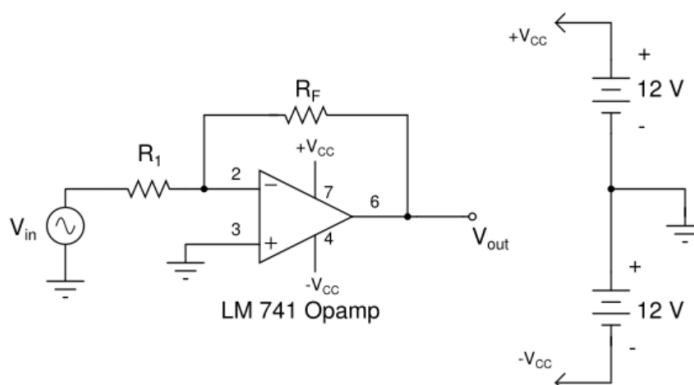

Fig. 3 Op amp inverting amplifier circuit (with $+V_{cc}$ and $-V_{cc}$ power supply connections)
- c. Connect V_{in} to the circuit as shown in Fig. 3 and connect it also to DSO CH1.